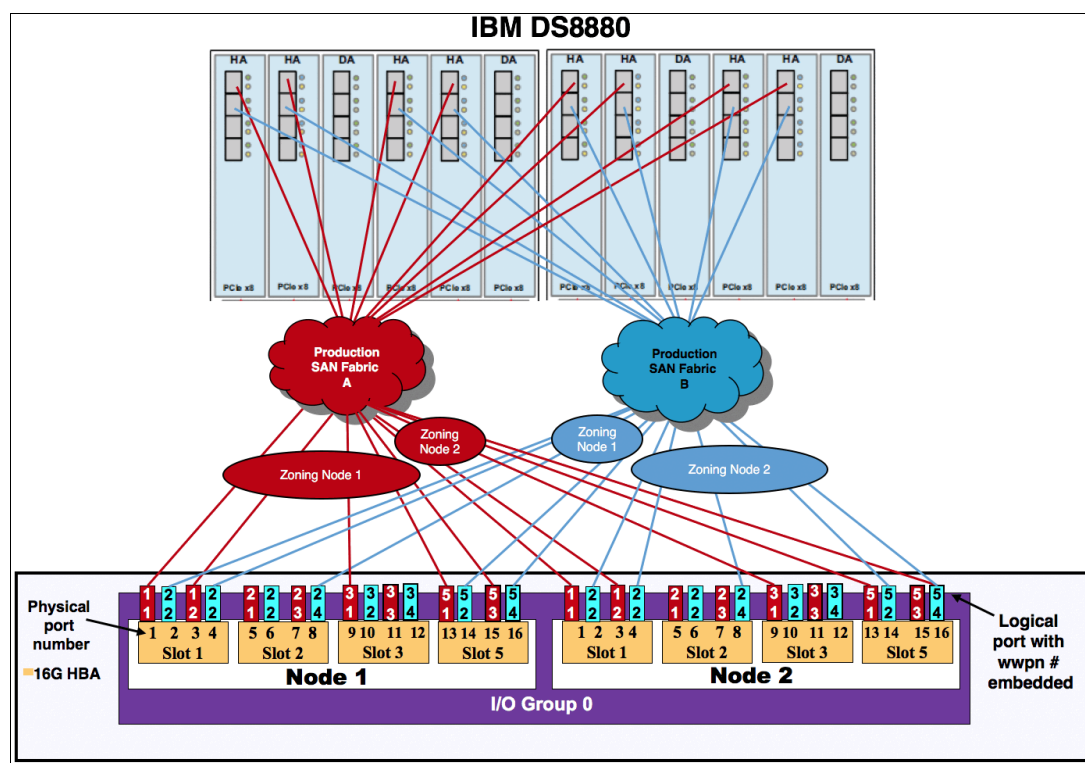

Figure 2-27 DS8886 to IBM SAN volume controller connectivity
Figure 2-27 shows the connectivity between an IBM SAN Volume Controller and a DS8886.
**Note:** Figure 2-27 also is valid example to be use for DS8900F to IBM SAN Volume Controller connectivity.
Notice that in Figure 2-27 on page 56, 16 ports are zoned to the IBM SAN Volume Controller and the ports are spread across the different HBAs that are available on the storage.